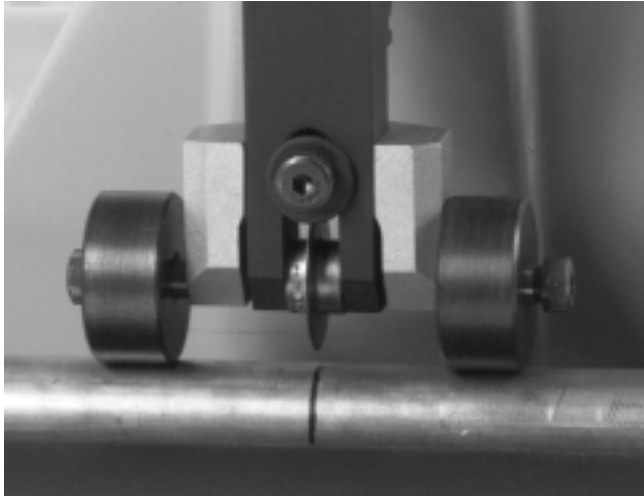

Figure 4 – Cutter Wheel Support Rollers Contacting Tubing
6. Lower the handle until the cutter wheel support rollers contact the tubing (*Figure 4*). Turn the ON/OFF switch to the ON position.